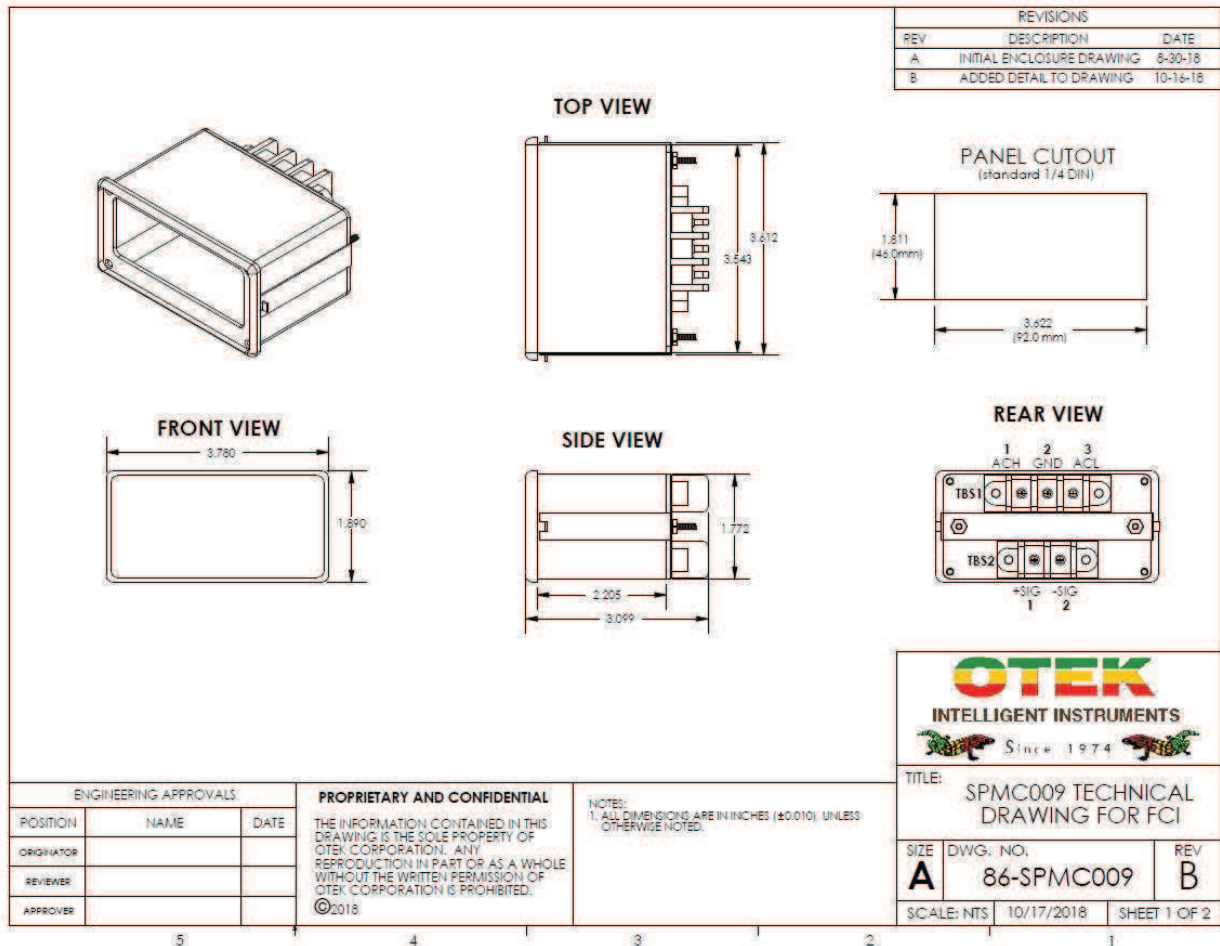

Figure 23: SPMC009 Housing Dimensions
- 7.8.2 Measure the width, height and depth using properly designated measurement and test equipment (M&TE). For details on the which measurement reflects what dimension, observe the mechanical drawing snapshot shown in **Figure 23** below.